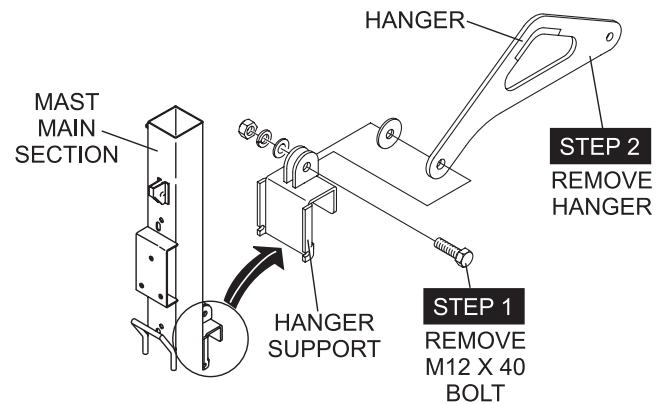

Figure 32. Removing the Hanger
1. Remove the M12 x 40 bolt (Figure 32) from the hanger support assembly, then remove the hanger. Set hanger aside in a safe place where it will not get damaged.
1. Reinstall the M12 x 40 bolt (Figure 32) that supports the hanger onto the main mast. Tighten bolt between 28~ 38 ft-lbs. (38 ~ 51 N-m).